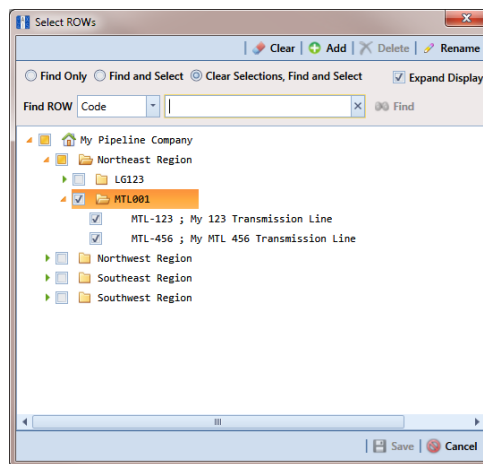

Figure 10-3. Select ROWs
- 1 Select one or more pipeline segments in the *Select ROWs* window (Figure 10-3). Select pipeline segment(s) with facilities you want to include in the Bridge definition. Click  **Save** to close the window.
- 1 Select one or more pipeline segments in the *Select ROWs* window. Select pipeline segment(s) you want to import SDL survey files. Click  **Save** to close the window (Figure 10-3, page 494).